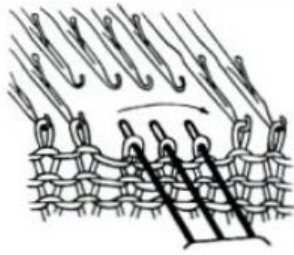

Fig.61
- 2) Use the 3 needle transfer tool, starting from either end, transfer all the stitches outward in either direction until the required needle is free. (See Fig. 61)